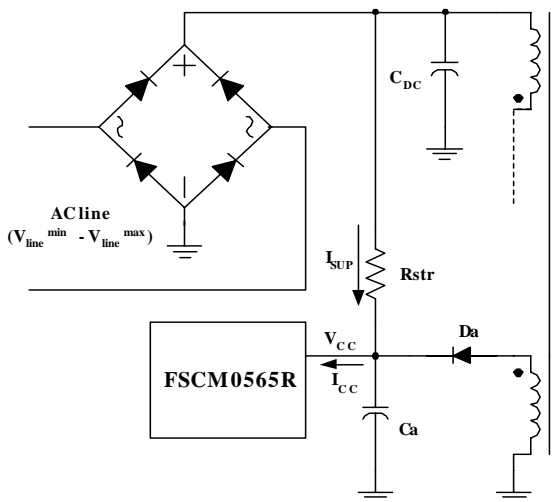
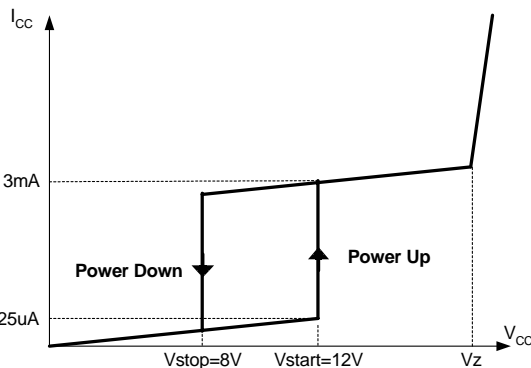

Figure 16. Startup Circuit
Figure 17. Relation Between Operating Supply Current and Vcc Voltage
**1. Startup:** Figure 16 shows the typical startup circuit and transformer auxiliary winding for the FSCM0565R application. Before the FSCM0565R begins switching, it consumes only startup current (typically 25uA) and the current supplied from the DC link supply current consumed by the FPS ( $I_{cc}$ ), and charges the external capacitor ( $C_a$ ) that is connected to the Vcc pin. When Vcc reaches start voltage of 12V ( $V_{START}$ ), the FSCM0565R begins switching, and the current consumed by the FSCM0565R increases to 3mA. Then, the FSCM0565R continues its normal switching operation and the power required for this device is supplied from the transformer auxiliary winding, unless Vcc drops below the stop voltage of 8V ( $V_{STOP}$ ). To guarantee the stable operation of the control IC, Vcc has under voltage lockout (UVLO) with 4V hysteresis. Figure 17 shows the relation between the current consumed by the FPS ( $I_{CC}$ ) and the supply voltage (VCC)